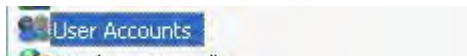

Figure 1-38. Control Panel – User Accounts
1. In the active "**Control Panel**" window (Figure 1-38), double-click on **User Accounts**.